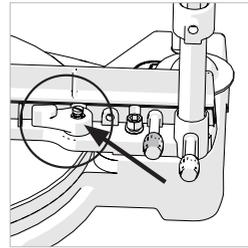

Fig. 19
- Loosen the Mitre Locking Screw (**Fig. 19**) by turning it anti-clockwise.